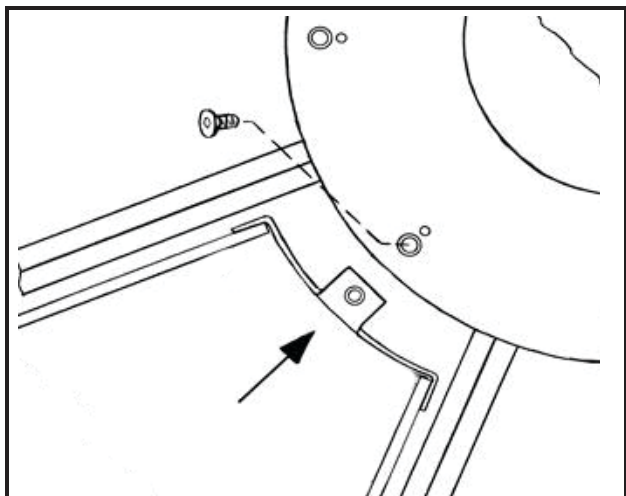

Fig. 38 — Nose to Hub Plate (ERC 81-86 ONLY includes screw)
5. For ERC-81 and ERC 86, use a 3/16 in. Allen wrench to remove the nose bolt securing the segment to the hub plate. See Fig. 38 for example to remove the nose bolt.
3. From the pulley side, slide segment into place nose first, then push outer portion of segment in to wheel frame. If you are installing an ERC-81 or ERC-86, use a 3/16 in. Allen wrench and the nose bolt to secure the segment to the hub. See Fig. 38 for segment placement.